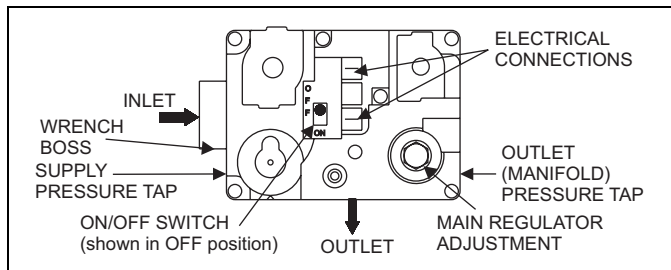

FIGURE 4: Gas Valve
5. Move gas control switch to the "OFF" position. Do not force. See Figure 4.
6. Wait five (5) minutes to clear out any gas. If you then smell gas, STOP! Follow "B" in the safety information above. If you don't smell gas, go to next step.
7. Move gas control switch to the "ON" position. Do not force. See Figure 4.
11. After three (3) trials for ignition, if the appliance will not operate follow the instructions, "TO TURN OFF THE APPLIANCE" and call your service technician or gas supplier.
4. Move gas control switch to the "OFF" position. See Figure 4.